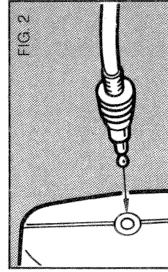

FIG. 2
Important Charger Notes (Figure 2)
- To charge the batteries, locate the charging socket in rear of the jig saw (Figure 2) and plug the charger into a suitable socket. The L.E.D. will light, indicating the batteries are charging. Charge the batteries for 24 hours the first time or otherwise it will reduce its capacity to accept a full charge in the future.
- If the batteries do not charge properly: (1) Check the current at receptacle by plugging in a lamp or other appliance. (2) Check to see if receptacle is connected to a light switch which turns power off when the light is turned off. (3) Move Charger and Jig Saw to a surrounding air temperature of approximately 15°F. (4) If the receptacle and temperature are O.K. and you do not get proper charging, take or send the tool and Decker Service Center. See guarantee card.